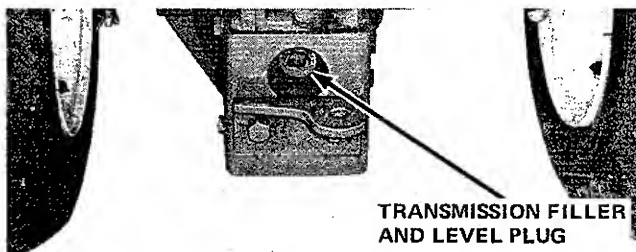

FIGURE 7
3. Transmission Oil: Check the transmission to insure it is filled with oil to the proper level. See page 9 of this manual for type and weight of oil to use. (Figure 7).